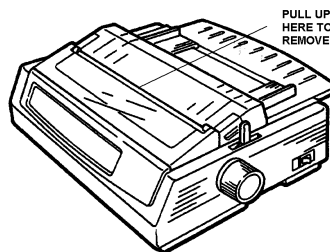

Figure 2, Ribbon Cartridge Inspection Cover Removal
20. Referring to Figure 2, remove the Ribbon Cartridge Inspection Cover, by gently pulling up on the middle of this cover until it pops off.